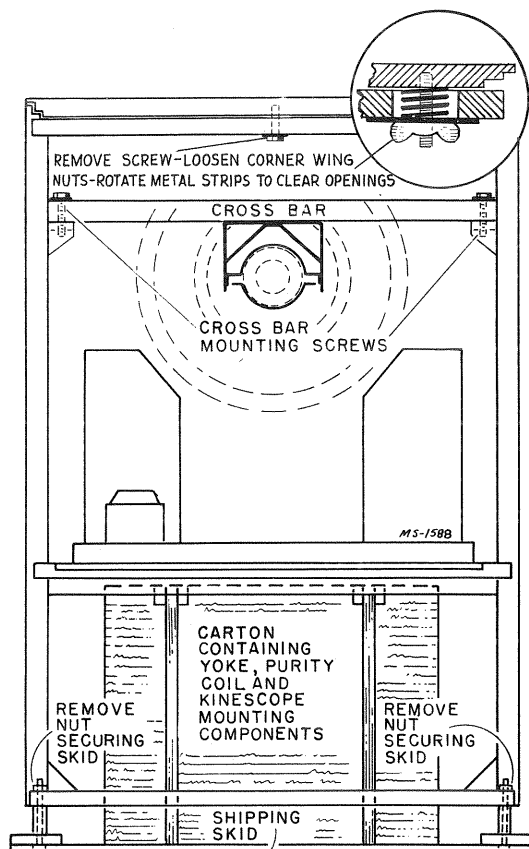

Figure 8—Cabinet Rear View
A flat skid is attached to the bottom of the receiver cabinet for shipping purposes. To remove the skid, take off the two nuts on the bolts fastening the skid to the cabinet. (Refer to figure 8.)
With a man at each side of the cabinet, lift the cabinet directly upward and off the skid. The carton fastened to the skid, under the chassis shelf (see figure 8), contains the kinescope mounting rods, the mumetal shield and retaining ring, the yoke, the purity coil and neck shield assembly, the high-voltage anode lead and the high-voltage insulator.
**Installation of Kinescope.**—Remove the cabinet back panel. Remove the cabinet top by removing the screw at the rear of the cabinet holding the top to the rear cross brace. (Refer to figure 8.) Reach under the cabinet top and loosen the wing nuts at each corner. Turn the metal tabs, under the wing nuts, to coincide with the slots in the cabinet braces. Slide the cabinet top approximately  $\frac{1}{4}$  inch to the rear and lift upward to remove.